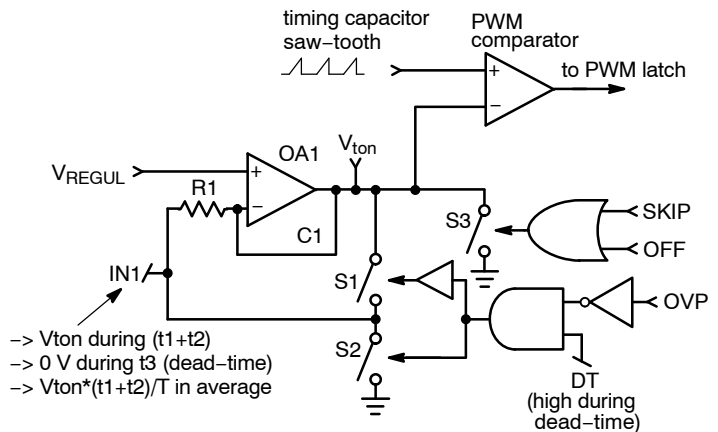

Figure 56. V_{TON} Processing Circuit
The output of the regulation block ($V_{CONTROL}$) is linearly changed into a signal (V_{REGUL}) varying between 0 and 1 V. (V_{REGUL}) is the voltage that is injected into the PWM section to modulate the MOSFET duty-cycle. However, like the NCP1601, the NCP1605(A) inserts some circuitry that processes (V_{REGUL}) to form the signal (V_{TON}) that is used in the PWM section instead of (V_{REGUL}) (see Figure 56). (V_{TON}) is modulated in response to the dead-time sensed during the precedent current cycles, that is, for a proper shaping of the ac line current (refer to NCP1601 data sheet). This modulation leads to:
Similarly, the “ V_{TON} processing circuit” is inhibited for a skip sequence not to over-dimension “ V_{TON} ” in this case (refer to Figure 56).
Remark: Like in the NCP1601, the “ V_{TON} processing circuit” is “informed” when there is an OVP condition, not to over-dimension V_{TON} in that conditions. Otherwise, an OVP sequence would be viewed as a dead-time phase by the circuit and V_{TON} would inappropriately increase to compensate it (refer to Figure 56).